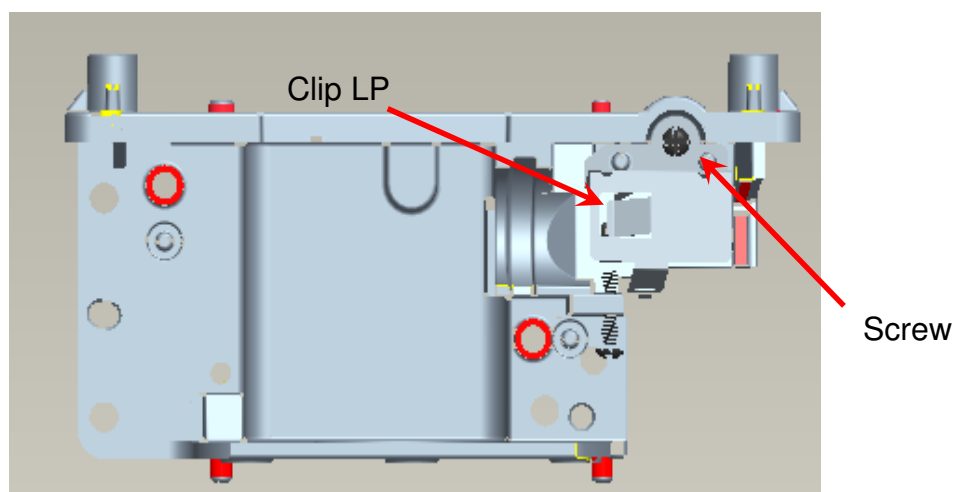

Fig. 1-3
- ii. Assembly “Clip LP” and lock with screw well (Fig. 1-3).